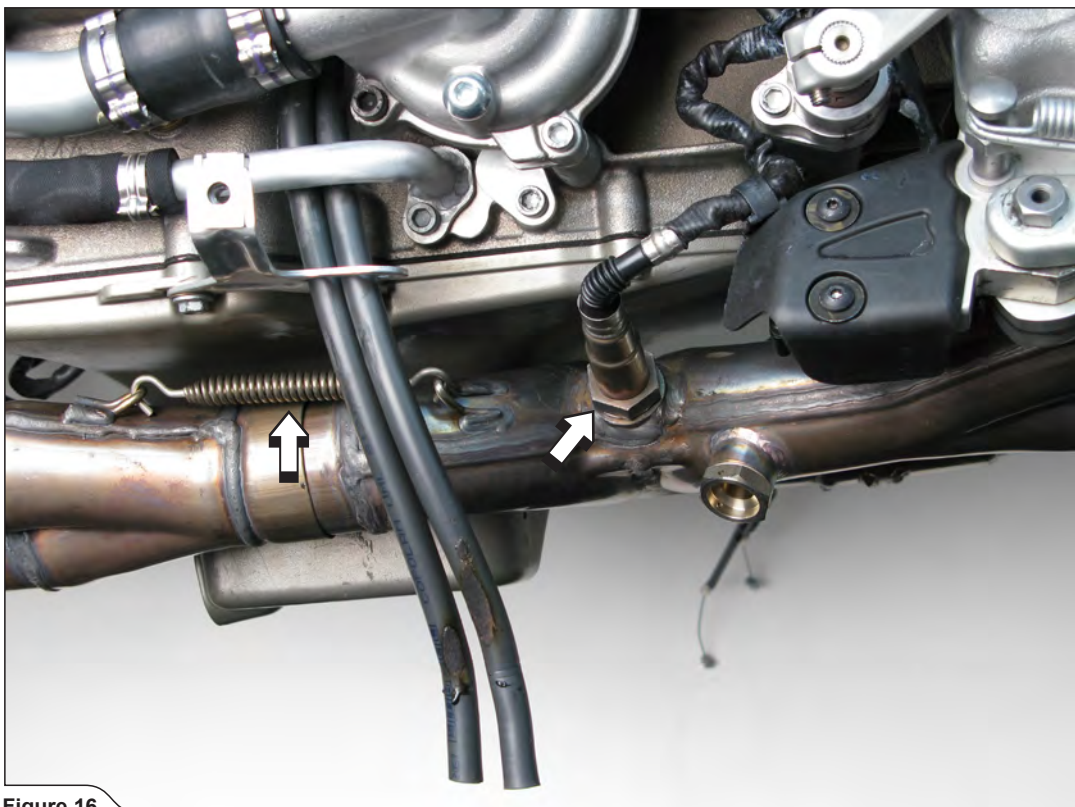

Figure 16
12. Unscrew the lambda sensor, unhook the spring and remove the collector. Unscrew the nuts of the rear header tubes and remove the rear header tubes (Figure 16).